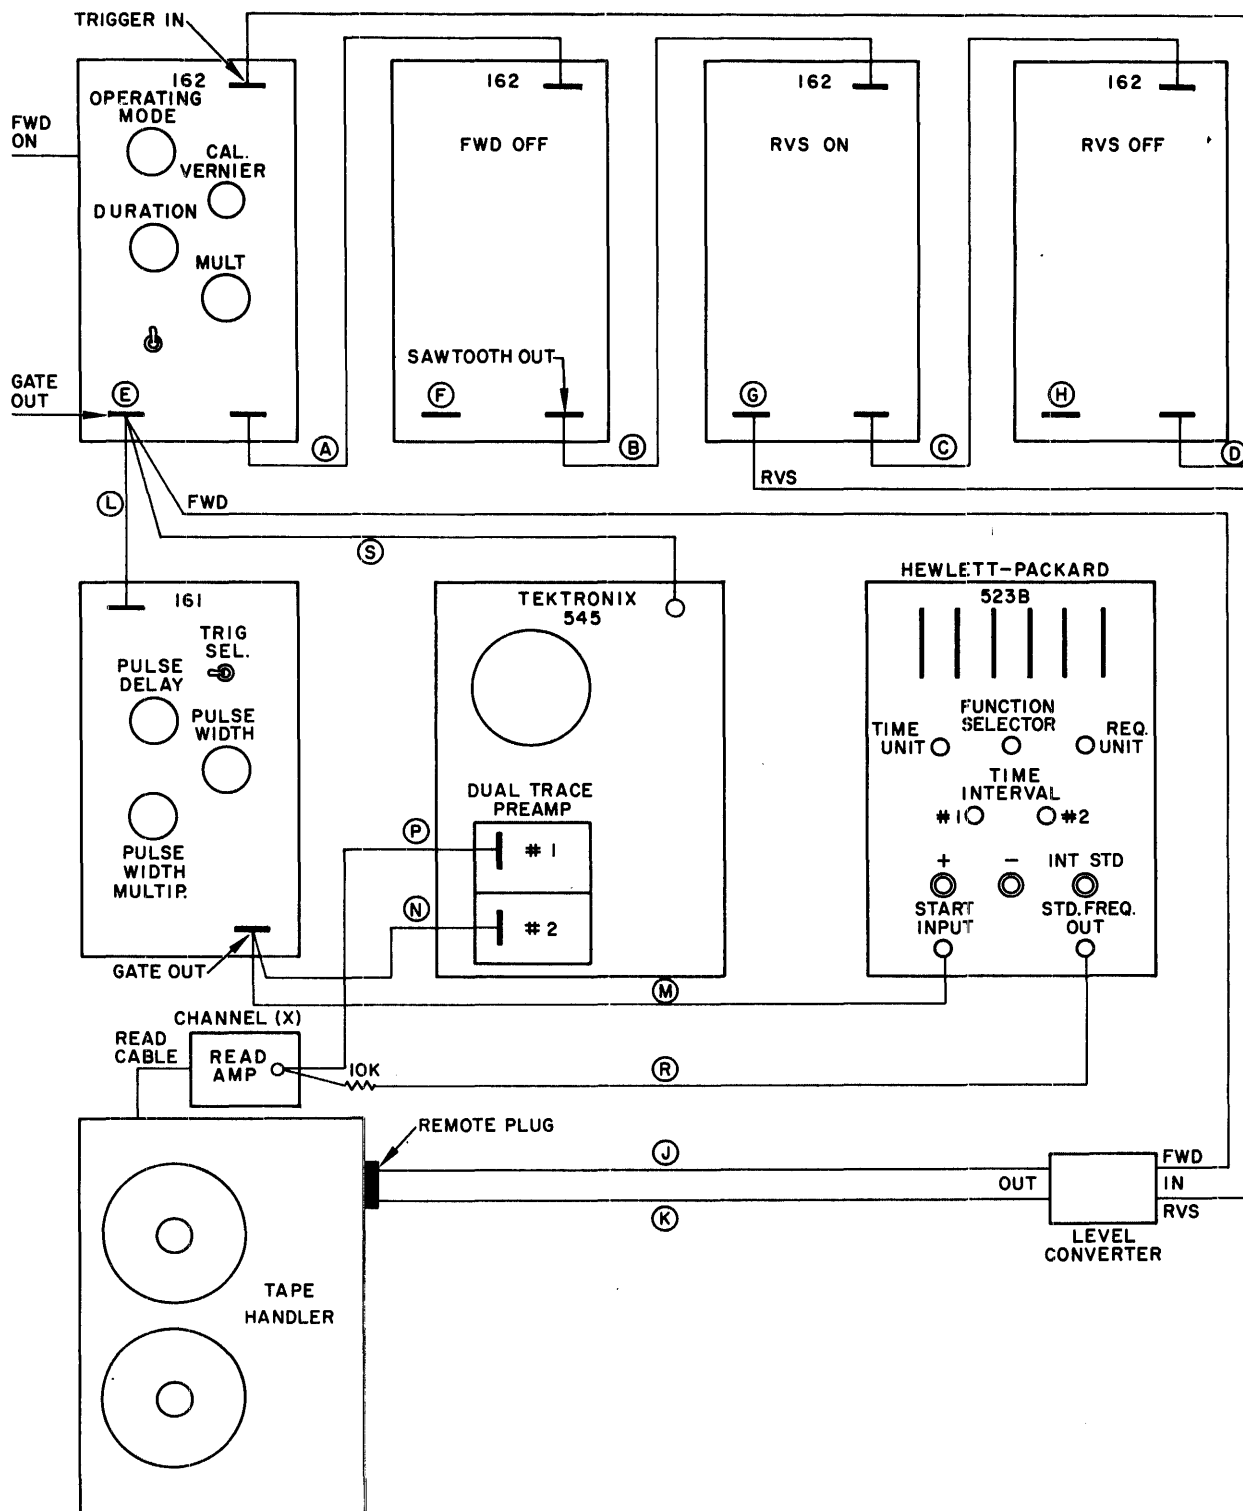

Figure 5-3.
Step 1: Connect test equipment as shown in Figure 5-3.